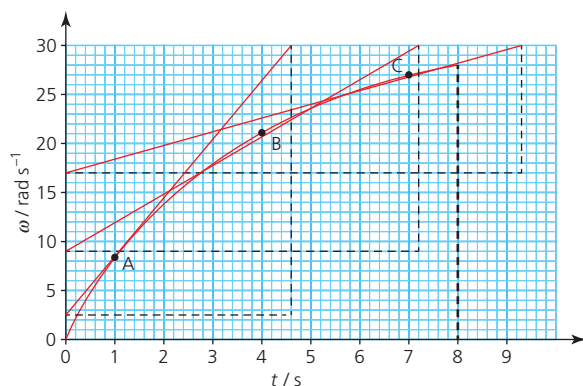

Figure 1
14. Draw tangents to the curve at points A, B and C, and find gradients using the largest triangles possible, as shown in Figure 1.